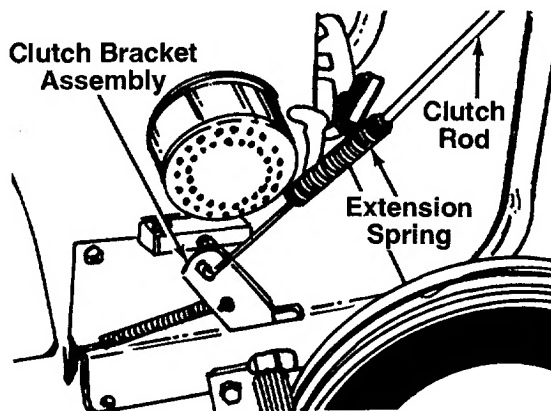

FIGURE 11.
3. Hook top (hooked end) of clutch rod into clutch grip. Hook spring into clutch bracket assembly. See figure 11. Adjust nut on the clutch rod so that when the clutch grip is all the way up, there is no slack in the spring.